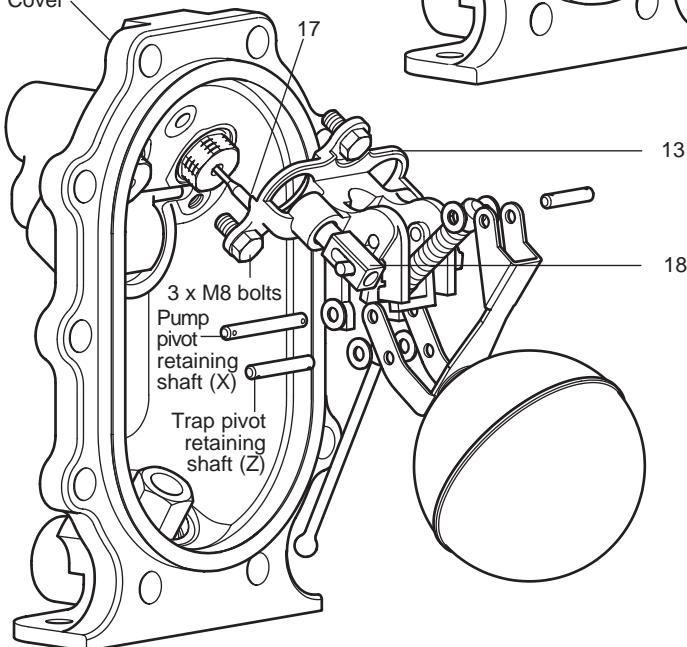

Fig. 7
4. Remove the split pin and washer from one side of trap pivot retaining shaft (Z) and carefully remove.
5. Carefully slide the shafts out from their respective positions observing the orientation of the spring and actuator arm (item 14, 24) within the pump bracket (item 13) as these will need to be refitted later.
6. Remove the split pin and washer from one side of pump pivot retaining shaft (X).
7. To remove shaft (X), the whole pump bracket (13) will need to be separated from the cover. This can be done by unscrewing the three M8 retaining bolts, and **removing the circlip from the steam inlet valve** (17). Remove the pump pivot retaining shaft (X).
10. It is easier to fit the replacement shafts in the following sequence:- (See Fig. 7).
**Refit pump bracket (13) to cover and tighten the three M8 bolts using the 13 mm A/F socket to  $18 \pm 2$  N m. Refit the new circlip to the steam inlet valve.**